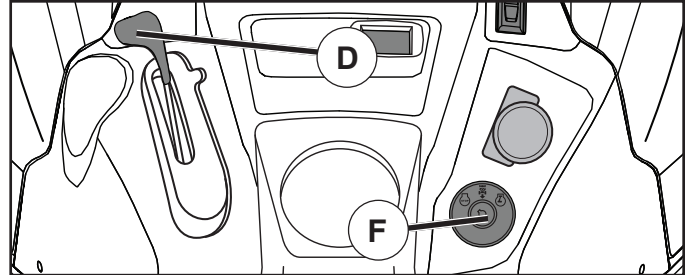

Fig. 7
TO USE THROTTLE CONTROL (D) (See Fig. 7)
TO MOVE FORWARD AND BACKWARD (See Fig. 7)